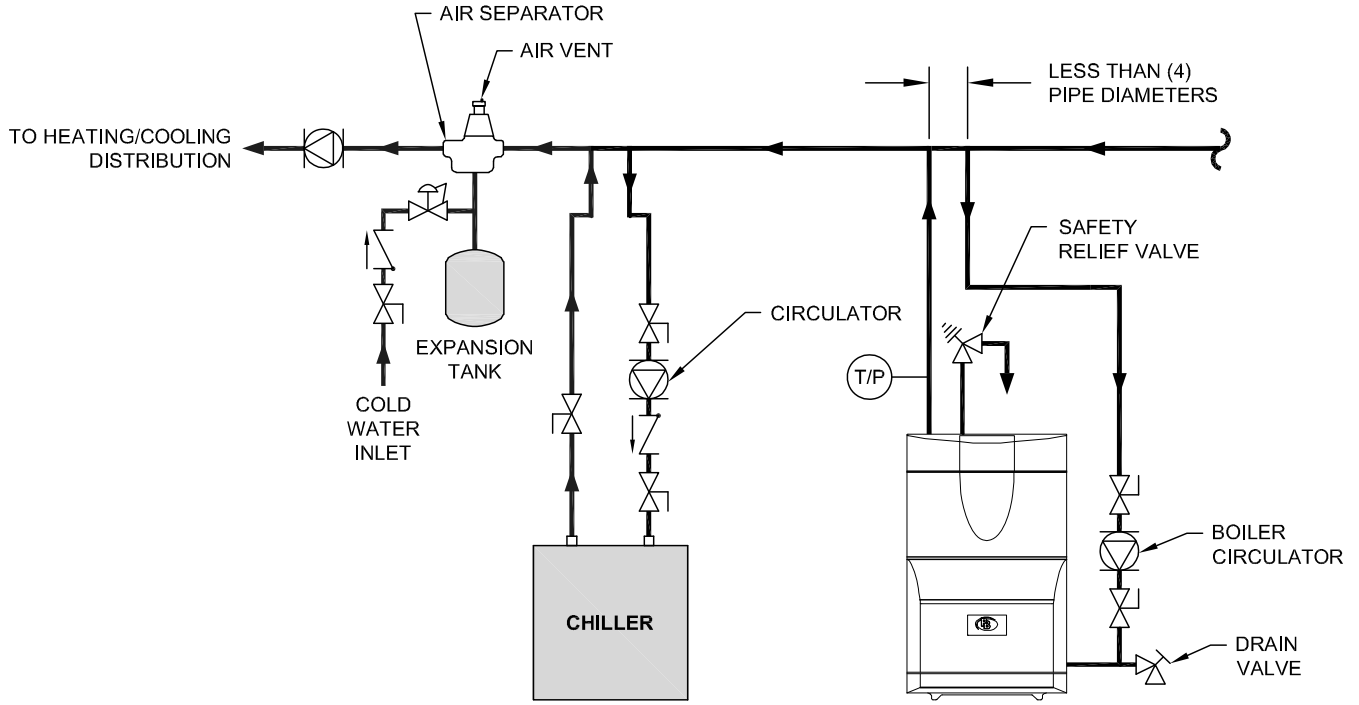

Figure 3.6: WBV/WV™ Piped with a Chiller
1. If the WBV/WV™ boiler is used in conjunction with a chilled medium system, pipe the chiller in a separate secondary loop as shown in Figure 3.6.